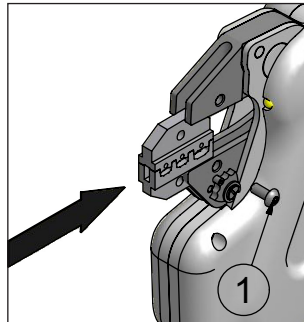

Figure 5
#### 8.1.1 Fitting die sets without additional positioning guides, e.g. for insulated/non-insulated cable connectors, through and coax connectors, wire-end sleeves, RJ plugs, etc. (Figure 5, 6)
2. Push the closed crimping die set – as shown in Figure 5 – into the socket on the die until the lower piece of the die set can be loosely screwed into place.
2. Push the closed crimping die set – as shown in Figure 5 – into the socket on the die until the lower piece of the die set can be loosely screwed into place using the M4x16 screw.
2. Push the closed crimping die set – as shown in Figure 5 – into the socket on the die until the lower piece of the die can be loosely screwed into place using the M4x16 screw.